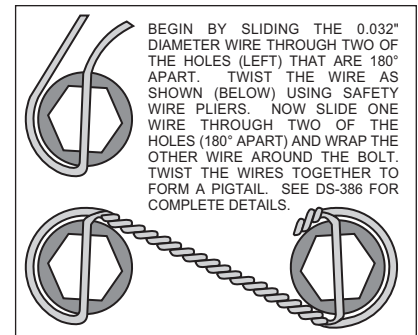

Figure 4. Safety Wire Diagram
•With the larger I.D. side of the rotor (5) facing away from the hat (6), bolt rotor (5) to hat (6) through the backside of the rotor using washers (7) and bolts (8). Torque bolts (8) to **85 in-lb**. Safety wire bolts (8) using standard 0.032 inch diameter stainless steel safety wire as shown in Figure 4. Please refer to Wilwood's data sheet DS-386 (available at [www.wilwood.com/Pdf/DataSheets/ds386.pdf](http://www.wilwood.com/Pdf/DataSheets/ds386.pdf)) for complete safety wire installation instructions. Slide the rotor/hat assembly onto the hub. Install a couple of lug nuts (finger tighten) to keep the rotor/hat assembly in place while continuing with the installation.